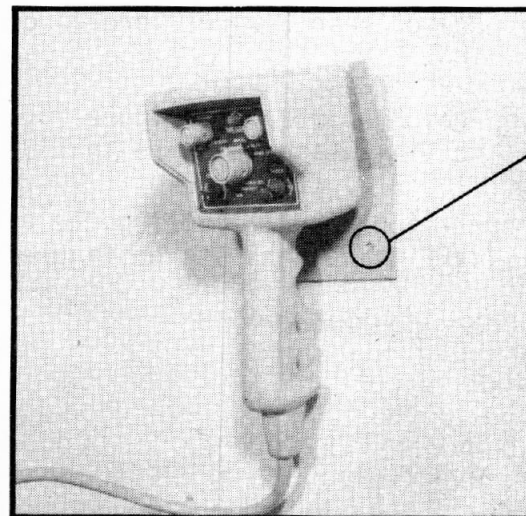

FIGURE 41. CONTROL HANGER MOUNTED ON WALL, WITH RHC
6. Mount the RHC hanger near the bulkhead connector. Secure with 2 wood screws or stainless steel bolts (not provided). See Figure 41.
2. Mount the control hanger near the bulkhead connector, using 2 screws or bolts (not provided). (See Figure 41, page 34 for a similar installation.) Neatly route the cable to the Matrix.